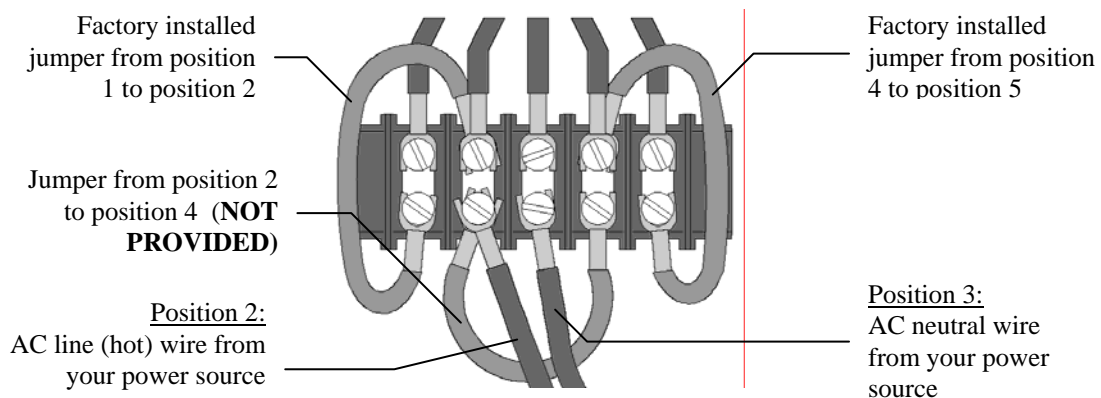

Figure 11 120 VAC Connections
5. If you are going to connect the scoreboard to a 120 VAC supply, connect the AC line wire to position 2 and the AC neutral wire to position 3 of terminal strip T4 on the junction chassis. Add a jumper from position 2 to position 4. **This jumper is not provided.** Refer to figure 11.